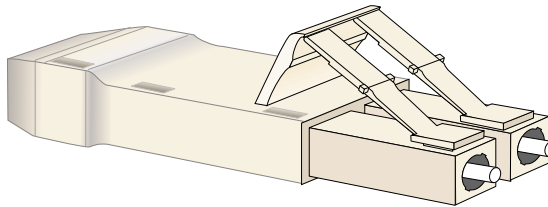

Figure 1-5 Loopback Plug
- **Loopback plug** - An SFP multimode (shortwave laser) or singlemode (longwave laser) loopback plug (Figure 1-5) is required to perform port loopback diagnostic tests. One loopback plug is shipped with the switch, depending on the type of port transceivers installed. Both plugs are shipped if shortwave laser and longwave laser transceivers are installed.